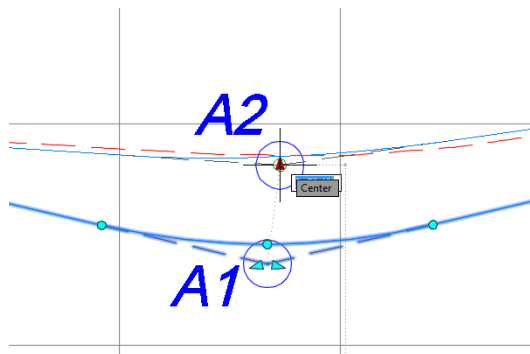

FIGURE 7.3 Moving a PVI grip
- Click the blue Jordan Court FGCL profile to display its grips. Click the upright triangular grip located in the circle marked A1, and drag it to the center of the circle marked A2, as shown in Figure 7.3.